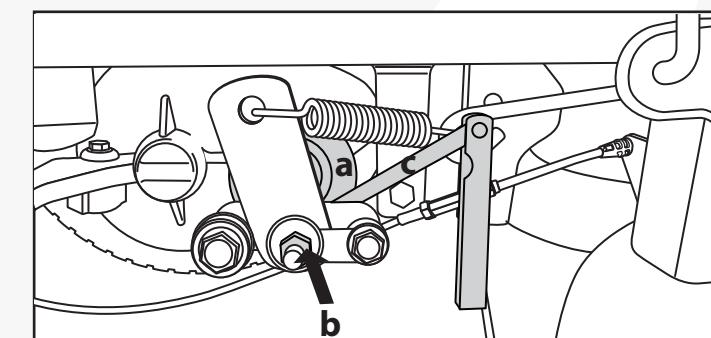

Fig. 35
2. While rocking the brake rotor (a) back and forth slowly tighten nut (b) until it's not possible to move the brake rotor. (Fig. 35)